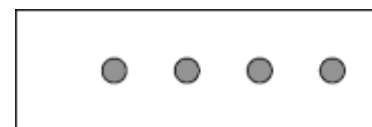

Figure 3 - schematic drawing of a microscopy slide with 4 droplets.
1. Set your P20 micropipette to 5 μ L and leave it at this setting. Use this micropipette to place 4 droplets of 5 μ L of the concentrated *Paramecium* suspension on a microscopy slide, as shown in Figure 3.